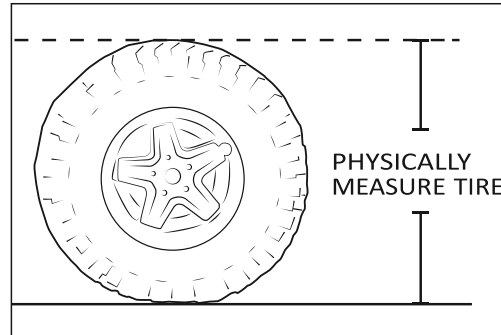

Figure 1
1. Physically measure the diameter of the tire you are using. DO NOT go off the advertised size listed on the sidewall (fig. 1) ex: 37 x 12.50 Tire measures 36".